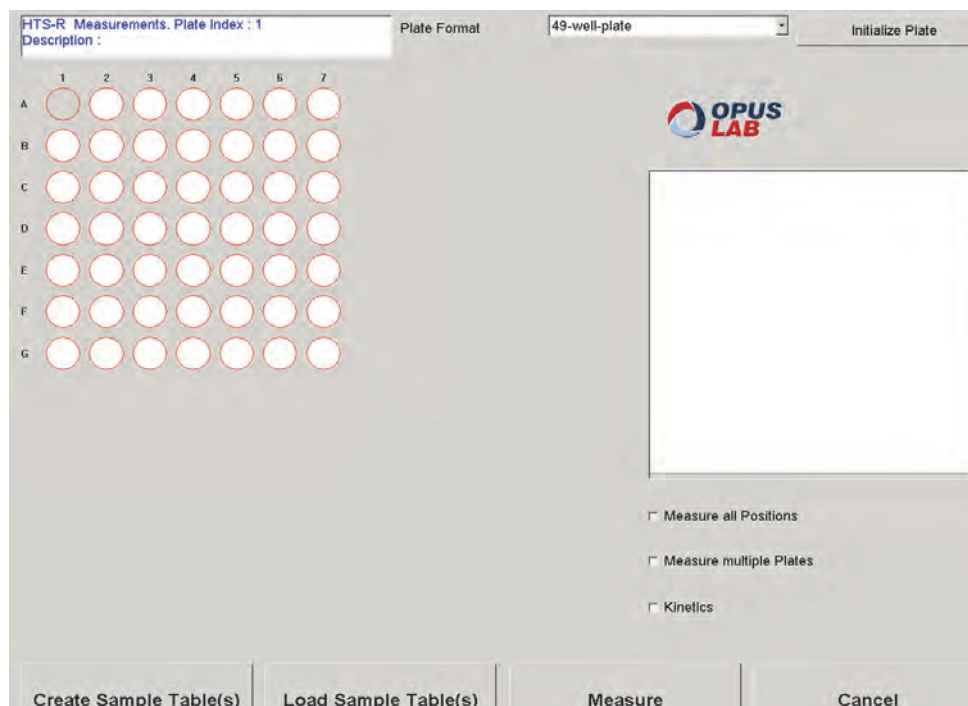

Figure 117: Define microtiter format and measurement positions
- 3) Click the *HTS-R* button. Another dialog opens (figure 117)